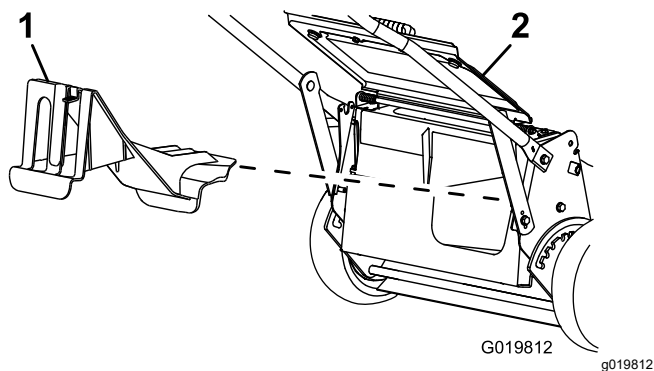

Figure 20
- If the rear-discharge plug is not installed, grip it by the handle, raise the rear deflector, and insert it into the rear-discharge chute until the latch locks into place; refer to Figure 20.